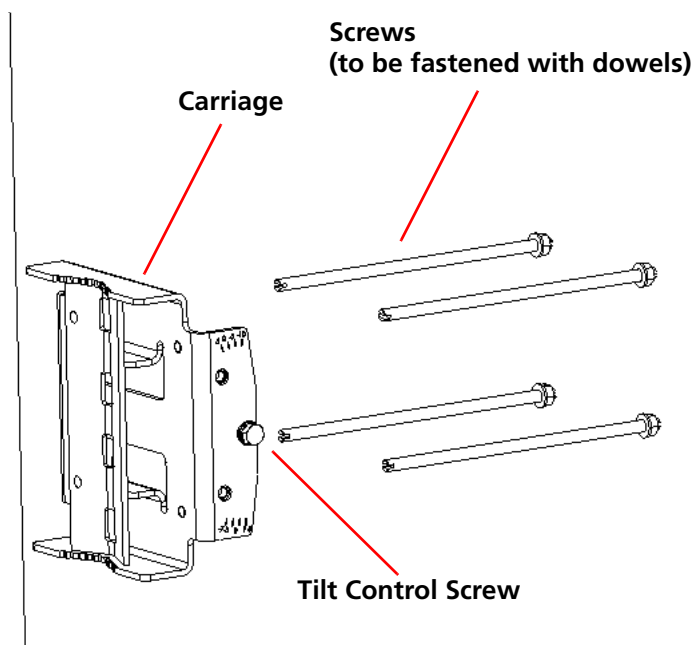

Figure 2-6: Mounting the Carriage on the Wall
- 4 Insert the tilt control screws into the middle-side hole of the carriage on both sides (see Figure 2-6).
- 6 Attach and fasten all the screws at both sides of the carriage (see Figure 2-6). Do not over tighten.